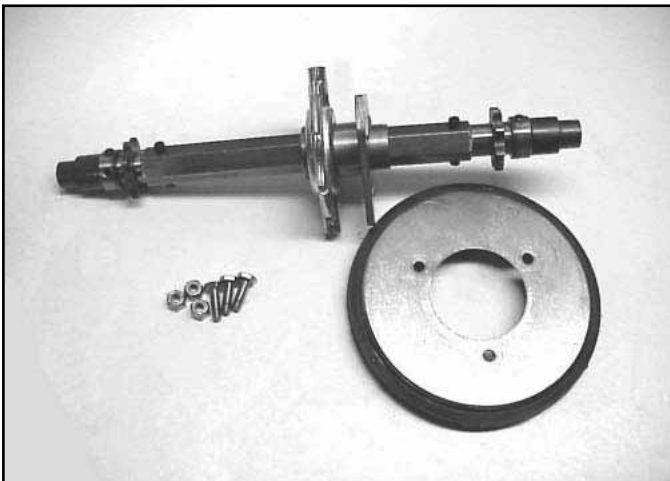

Fig 135
18. Remove friction wheel from hex shaft by removing the 3 nuts and bolts that hold the friction wheel to the plate on the hex shaft (Fig. 135).